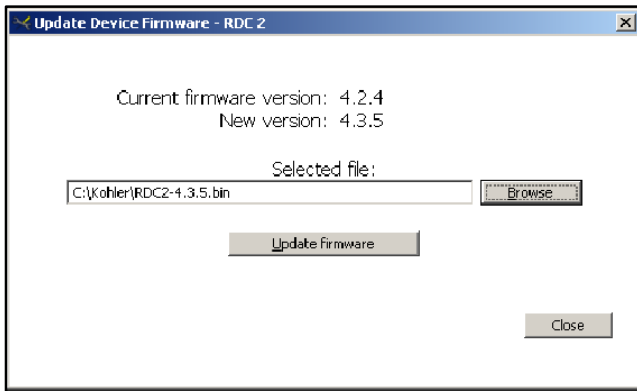

Figure 35 SiteTech Update Device Firmware Screen
6. The Update Device Firmware screen displays the current version number, new version number, and file name of the selected firmware file. See Figure 35. If all of the information is correct, click Update Firmware.